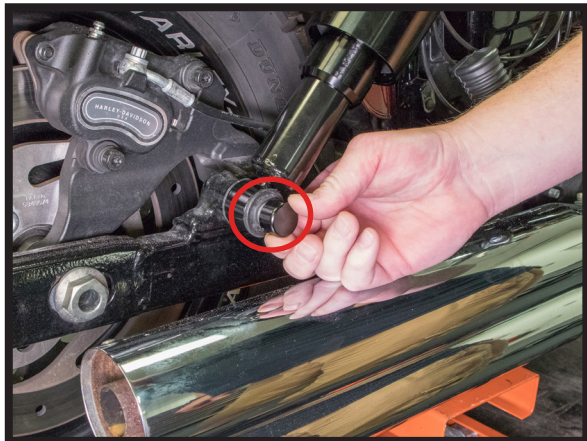

FIGURE 24
12. PUT THE INCLUDED BOLT CAP ON THE BOLT. YOU MAY NEED TO LUBRICATE THE INTERNAL O-RING WITH WATER TO ALLOW THE CAP TO SLIDE ON EASILY. (FIGURES 24, 25)